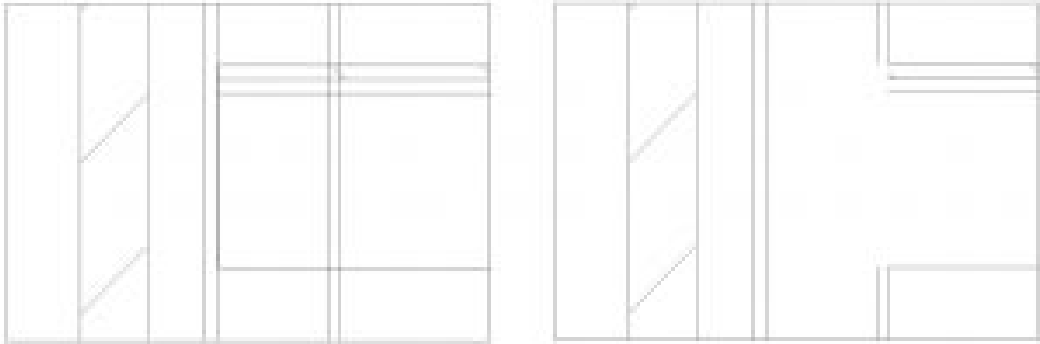

Figure 10.2 Masking region before (left) and after placement (right)
14. Select the mask and adjust the extents using the blue dots to match Figure 10.2